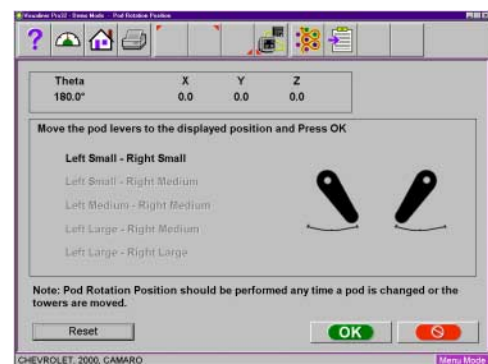

Figure 24
2. Adjust the camera lever’s to the illustrated position shown on the screen and click on <OK>. (Figure 24)